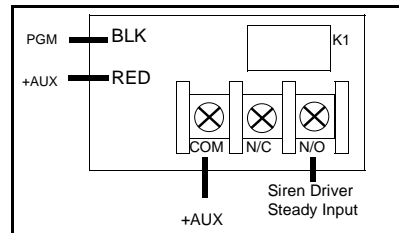

FIGURE 6 KEYFOB/KEYSWITCH CHIRP
(1) Audio Verification - Program to activate the PGM during reporting. Select specific zones for audio verification by programming the required zones in *PGM Output [08]*, *PGM Features 2 [24]* and *PGM Features 3 [25]*. Connect the PGM to the Veriphone™ trigger low input.
(2) Access Output - Activates the PGM output for 5 seconds using the **FUNCTION 3** command.
(3) Follow Keypad Sounder - The following keypad sounds will activate the PGM output: Entry Sounder, Keypad Pulsing Sounder, Keypad Output on Alarm, Chime, Fault Find.
(4) Keyfob/Keyswitch Chirp - Program to chirp the PGM Output (1) one time when the panel is armed or (2) two times when the panel is disarmed. Wire as shown in Figure 6.